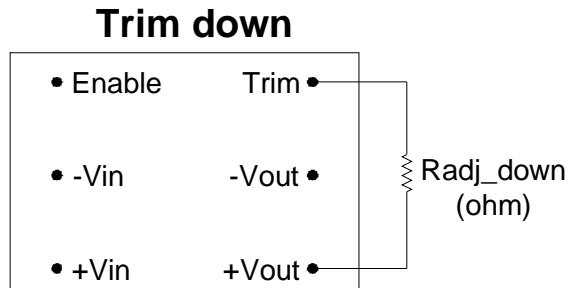

Figure 3. Circuit Configuration to Decrease Output Voltage
**To adjust  $V_o$  to a lower value**, please refer to Figure 3.